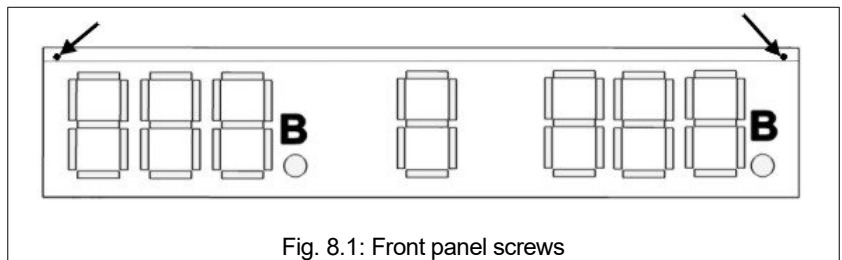

Fig. 8.1: Front panel screws
2. With a Phillips screwdriver remove the two screws from the transparent front panel (Fig. 8.1, Fig. 8.2-1) of the module containing the board in need of replacement.